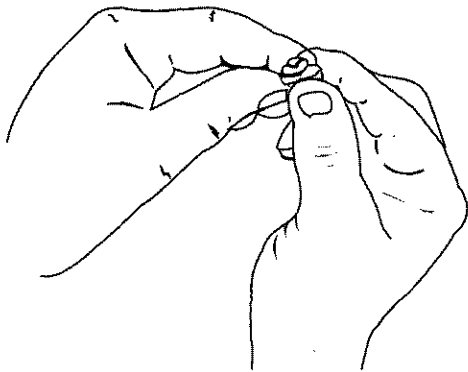

Fig. 39
5. Squeeze the filter to spread and remove excess oil (Fig. 39).